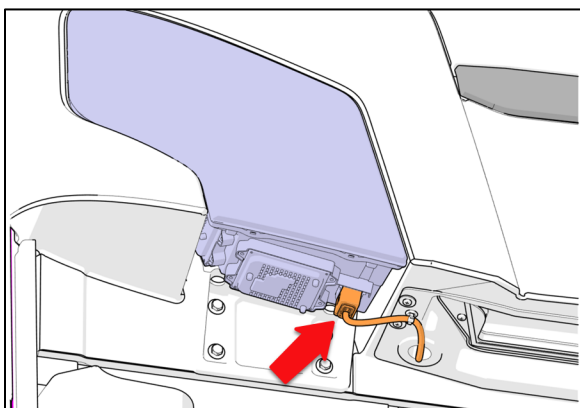

FIGURE 100
10. Apply final torque to the four (4) bolts in accordance with the tightening sequence (Figure 100).